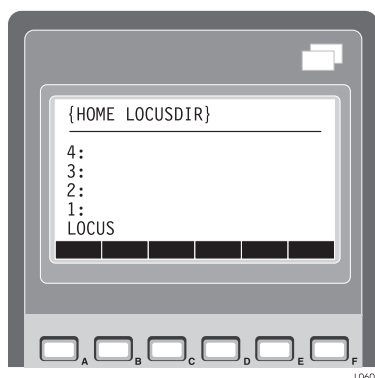

Figure 3.9: Key in LOCUS
3. Key in **LOCUS** (Figure 3.9).